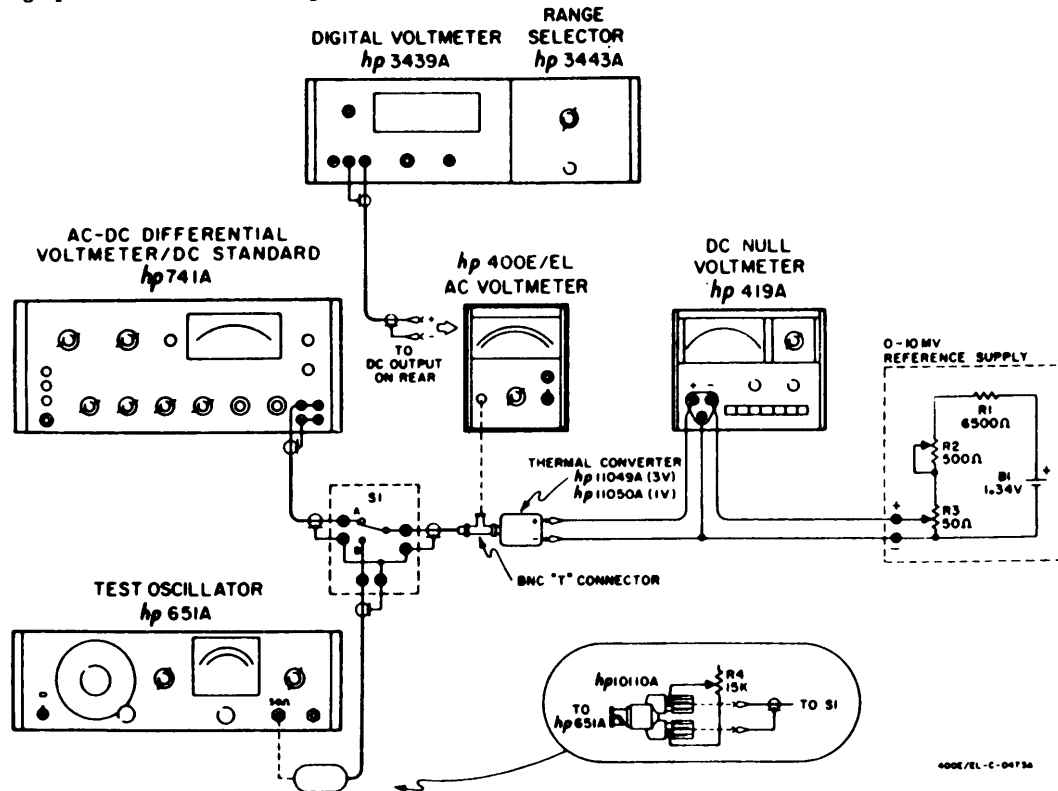

Figure 5-1. Accuracy and Frequency Response Test Setup
5-11. The test setup in Figure 5-1 uses a thermal converter with a null circuit to adjust the frequency re-
sponse of the test oscillator to within 0.2% over its entire band. Construct the 0 to 10 mv Reference Supply shown in Figure 5-1 and allow it at least 24 hours to stabilize.
- a. Connect the dc standard, the 400E/EL, the null voltmeter, the reference supply, and a 3 volt thermal converter as shown in Figure 5-1. Set switch S1 to position A connecting the dc standard output to the thermal converter input. The reference supply and the thermal converter are sensitive to variations in ambient temperature. Ensure that the ambient temperature variations are less than $\pm 2.0^{\circ}\text{C}$.
Paragraphs 5-16 to 5-17 and Figure 5-1
- a. Set switch S-1 in figure 5-1 to position B, connecting the test oscillator to the thermal converter input. Connect the digital voltmeter to the 400E/EL DC OUTPUT terminals.
- c. Using the oscillator amplitude control as coarse adjustment and resistor R4 (Figure 5-1) as fine adjustment, increase the oscillator amplitude until the thermal converter output nulls the reference supply. Observe the 400E/EL meter indication and dc output.
- a. Connect the dc standard, 3 volt thermal converter, dc null voltmeter, and reference supply as shown in Figure 5-1.
- c. Disconnect the dc standard, and connect the test oscillator, the digital voltmeter, and the 400E/EL as shown in Figure 5-1.
- a. Calibrate the reference supply in Figure 5-1 with a 1 volt thermal converter according to the steps in Paragraph 5-10.
- b. Disconnect the dc standard and connect the test oscillator, the 400E/EL, and the digital voltmeter as shown in Figure 5-1. Set the oscillator frequency to 400 Hz and the 400E/EL to the 1 volt range. Using the amplitude control as coarse adjustment and R4 as fine adjustment, increase the oscillator output until the thermal converter output nulls the reference supply.